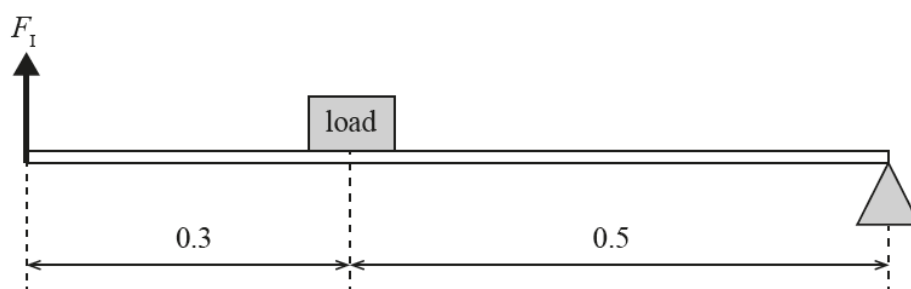

Fig. 3
- (c) Fig. 3 shows a diagram of a lever with a length of 0.8 m. The lever has a fulcrum at one end and an input force, F_I N, at the other end. A load on the lever is positioned at 0.5 m from the fulcrum.